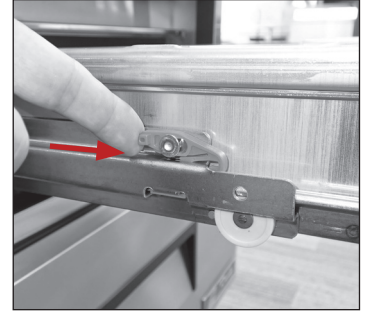

Fig. 6a. Push the retainer forward.
2. Push the plastic drawer retainer forward and raise the front end. See figs. 6a and 6b.